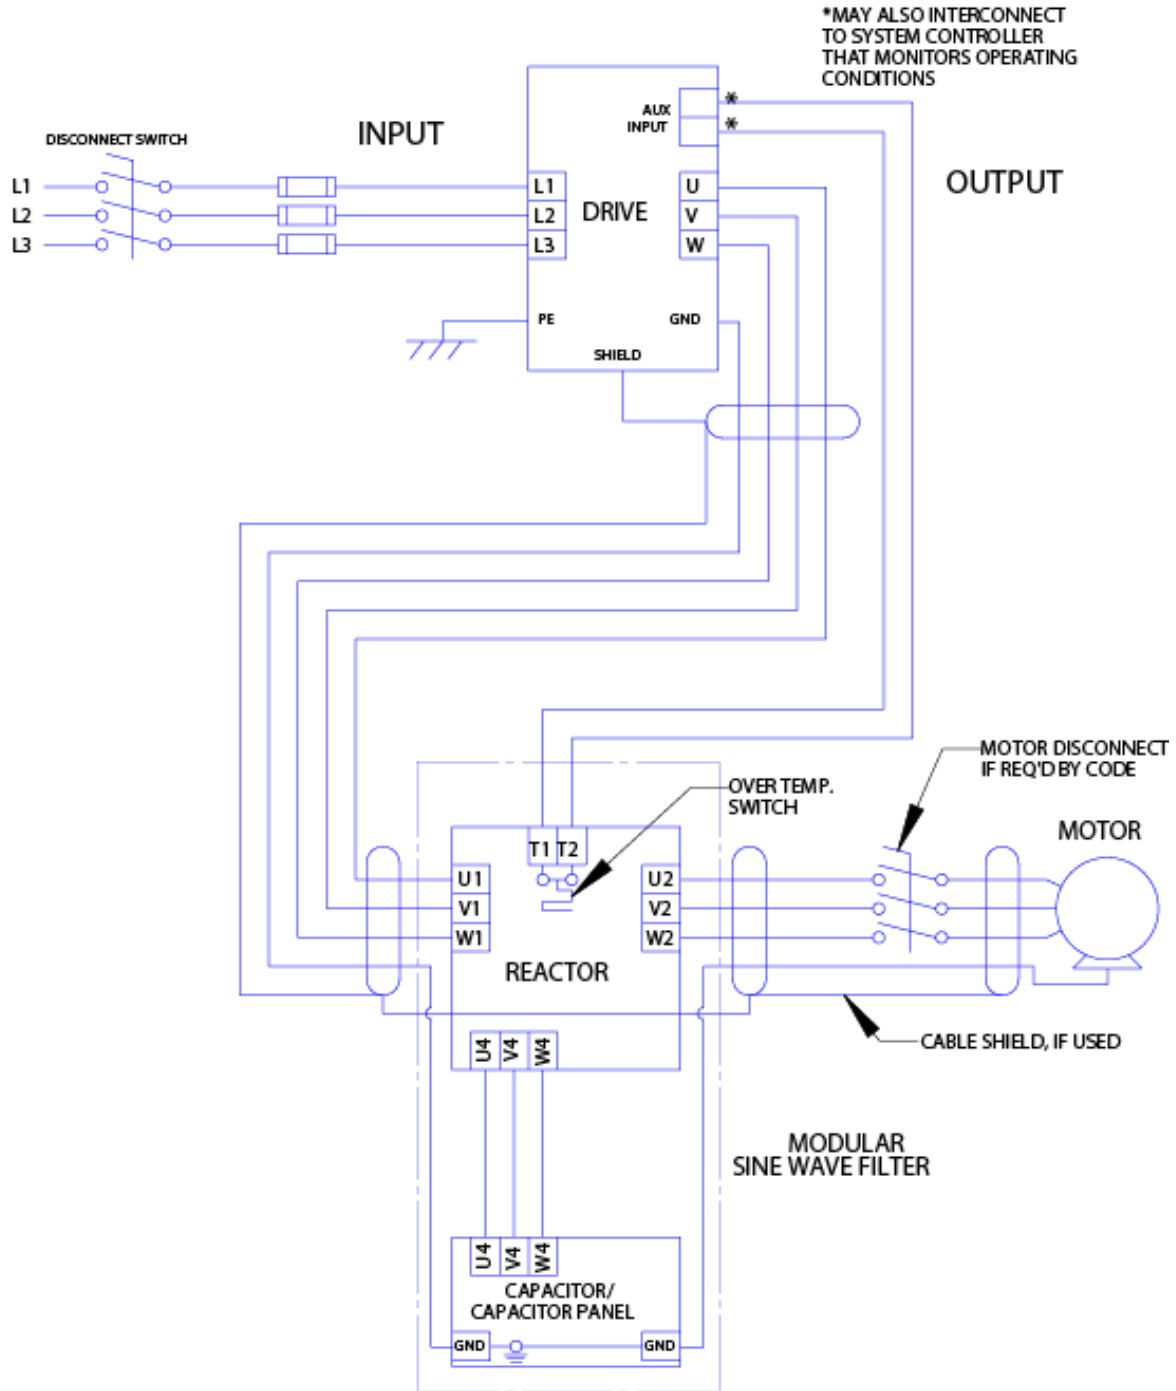

Figure 3-2: Open Panel Interconnection
- For panel mounted filter applications, interconnection between the filter, its power source, the cap-panels, and the drive is shown in Figure 3-2 (p10).